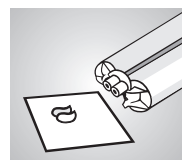
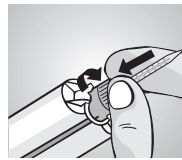

Fig. 3
Fig. 4
Cartridge material is extruded using the Automix2-System dispensing gun (Fig. 2). After inserting cartridge into dispensing gun, unscrew cap and carefully extrude a small amount of material to insure proper flow from both ducts (Fig. 3). Attach mixing cannula by aligning notched side to cartridge and turning clockwise until fastened (Fig. 4). Dispenser now ready to mix silicone in any amount needed. Leave mixing cannula on cartridge after use. Use only blue **tempofit® semi** 10:1 blue mixing cannulas!
- To ensure a homogeneous mixing: Prior to insert the mixing cannula, **always** eject a small amount of material to ensure extruding **equal amounts** of base and catalyst **from both orifices** (Fig. 3).